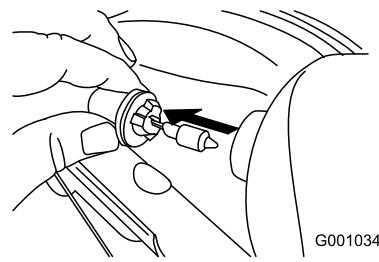

Figure 63
3. Remove the bulb straight out from the back of the headlight (Figure 63).